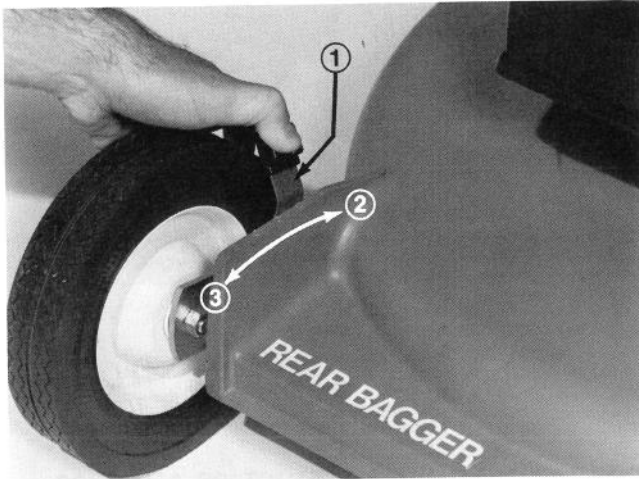

Figure 8
**Height-of-Cut Adjusters** (Fig. 8) – The height-of-cut adjuster controls the height of the mower for cutting.
The height-of-cut is adjustable from approximately 25 mm to 76 mm, in 13 mm increments, and letters cast into the housing represent each graduated increment (Fig. 8).
2. Place thumb against height-of-cut adjuster and fingers on outside of wheel (Fig. 8).